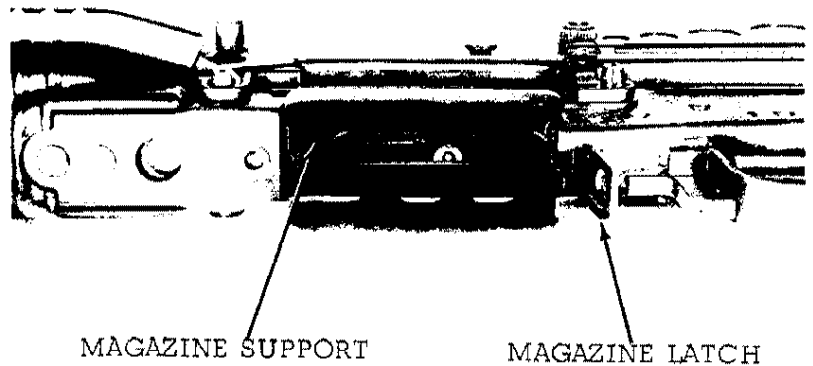

FIGURE 14. MAGAZINE SUPPORT AND LATCH
b. Loading the Rifle. The magazine may be inserted with the action open or closed. With the bolt closed, insert a loaded magazine into the magazine well until the magazine support and magazine latch (see figure 14) engage the magazine and lock it into place. Pull down on the magazine to insure that it is locked. Pull back and release the cocking handle, allowing the bolt to strip the top round from the magazine, feeding and chambering. Push the cocking handle all the way forward.